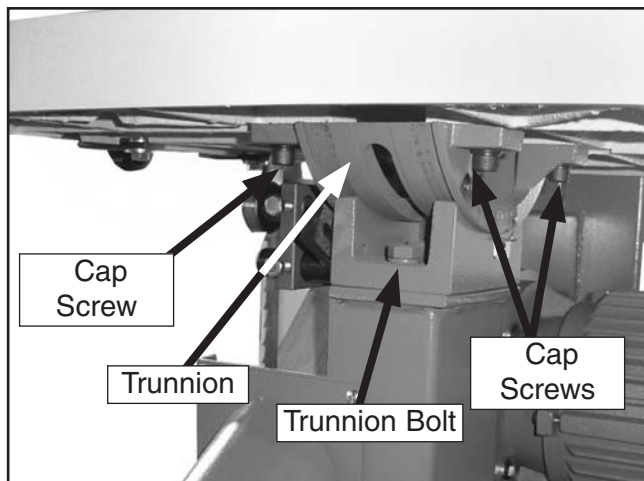

Figure 13. Table mounted to trunnion.
5. Secure the table to the trunnion as shown in **Figure 13** with the $\frac{1}{2}$ -12 x 2 hex bolt (trunnion bolt) and flat washer.